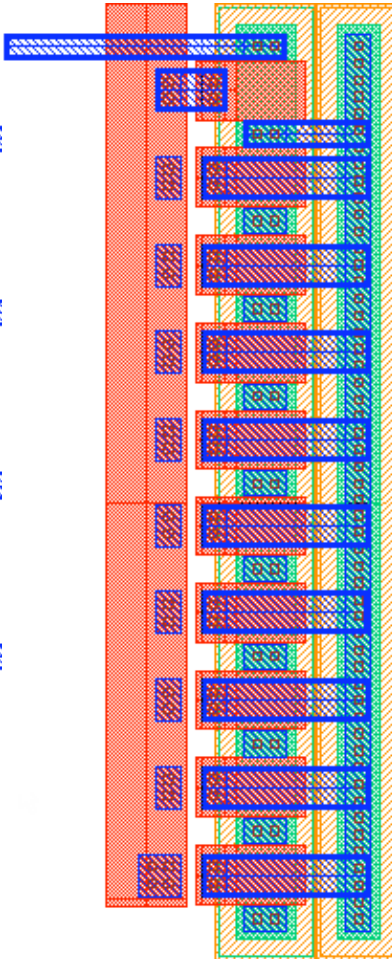

Figure 71: Inner connection for leaf $I_{\text{ref_in}}$
- Repeat steps 2 to 6 to create paths connecting the transistors for I_{ref_in} . The finished one should look like Figure 71.